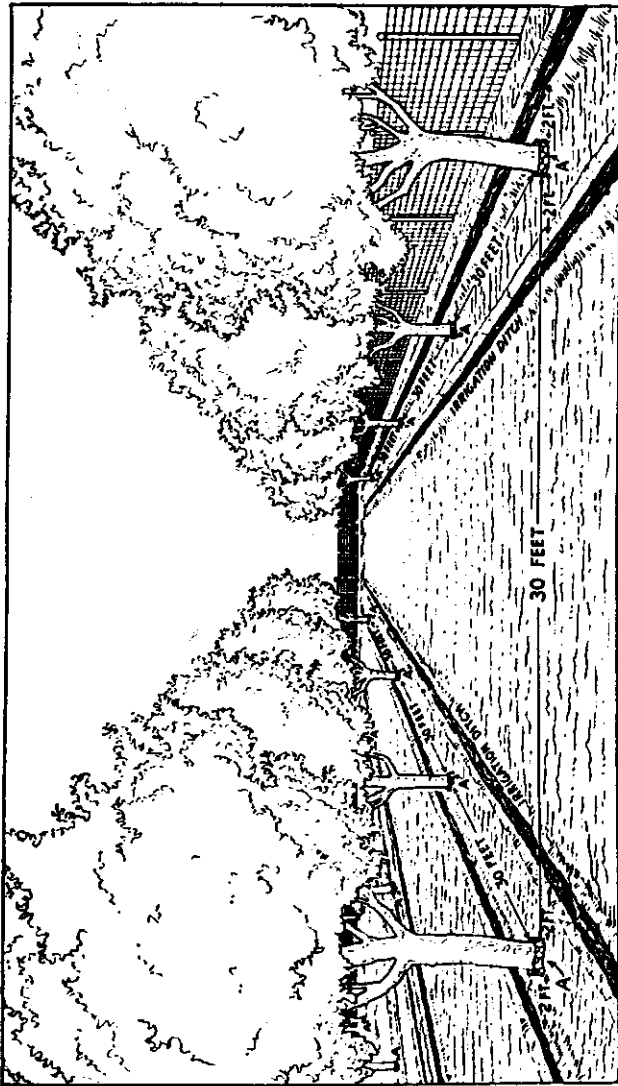

Figure 3
*ergy-Condensers* can be seen with the selvage end up and encircling each tree. (A, Figure 3)